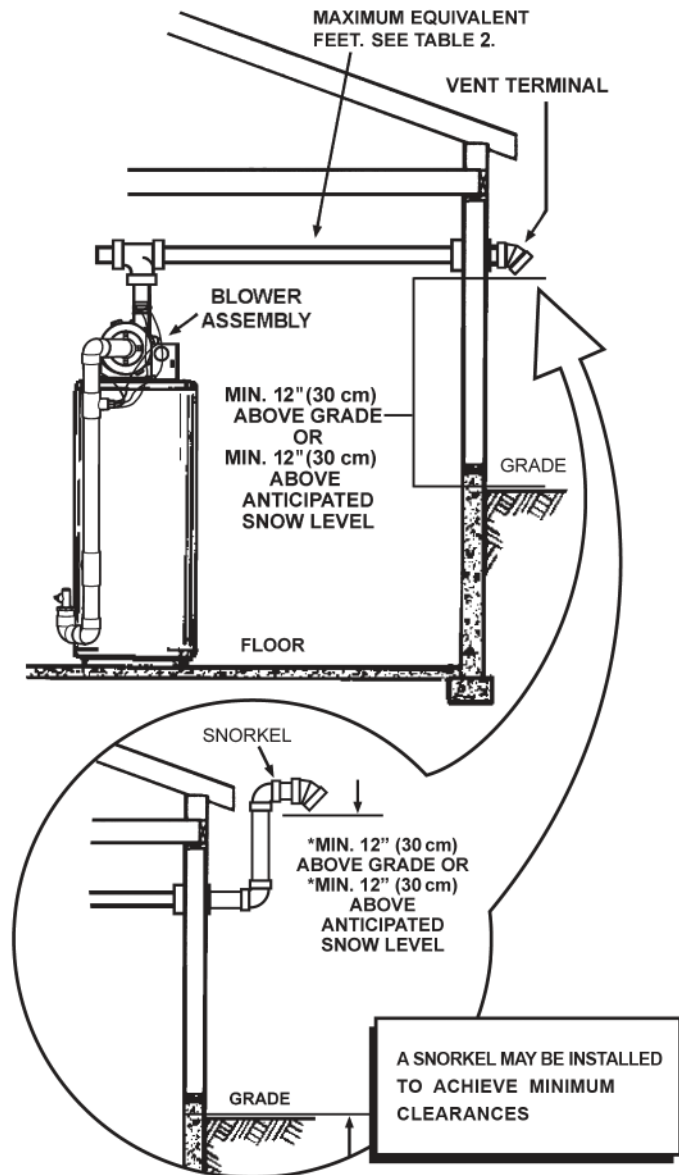

FIGURE 20.
If necessary to achieve the 12" minimum clearance above the highest anticipated snow level, install a snorkel as shown in bottom portion of Figure 20.
1. Vent Termination must extend a minimum of 12 inches (30 cm) above roof or 12 inches (30 cm) above the anticipated snow level to prevent blockage of the vent termination, as shown in Figures 20 and 21.